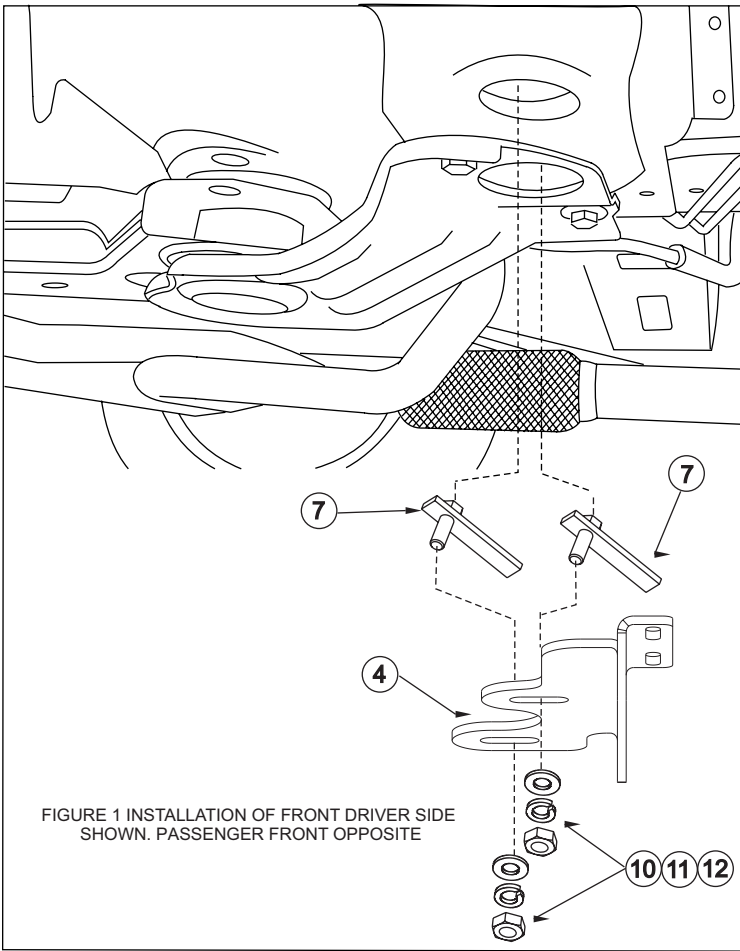

FIGURE 1 INSTALLATION OF FRONT DRIVER SIDE SHOWN. PASSENGER FRONT OPPOSITE
STEP 3. Attach front driver side bracket using two 1/2-13 x 2.00" bolt plates, 1/2" flat washers, 1/2" lock washers, and 1/2-13 hex nuts as shown. **SEE FIGURE 1.**